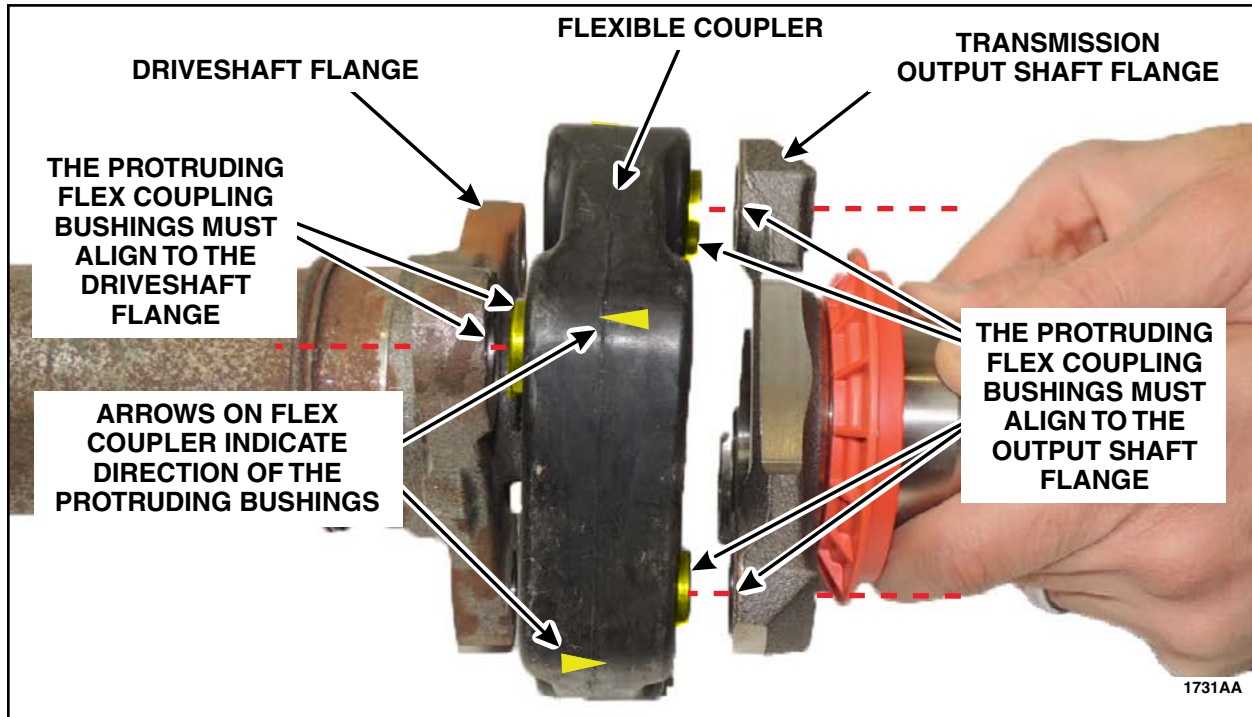

FIGURE 16
NOTE: There are six (6) bushings in the coupler. Three (3) bushings protrude forward and three (3) protrude rearward and they must interlock with each flange. See Figure 16.